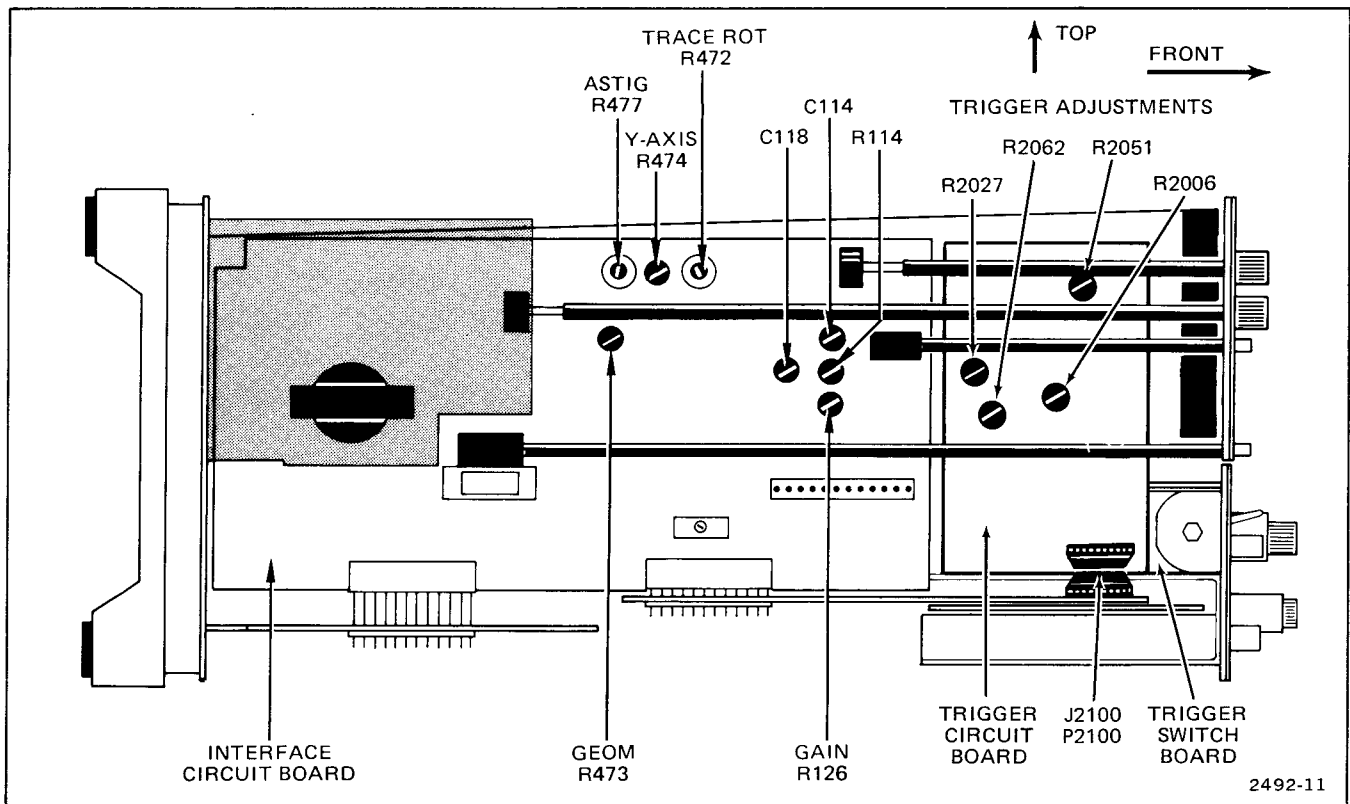

Fig. 4-6. Trigger board adjustment locations (on left side of crt).
i. ADJUST—Composite DC Level, R2006 (see Fig. 4-6), to bring sweep to center line.
d. ADJUST—X Centering, R2051 (see Fig. 4-6), so dot is at center line.
c. ADJUST—X Gain R2062 (see Fig. 4-6), for two dots spaced for a horizontal deflection of 5-divisions (set INTENSITY for visible low-intensity dots).